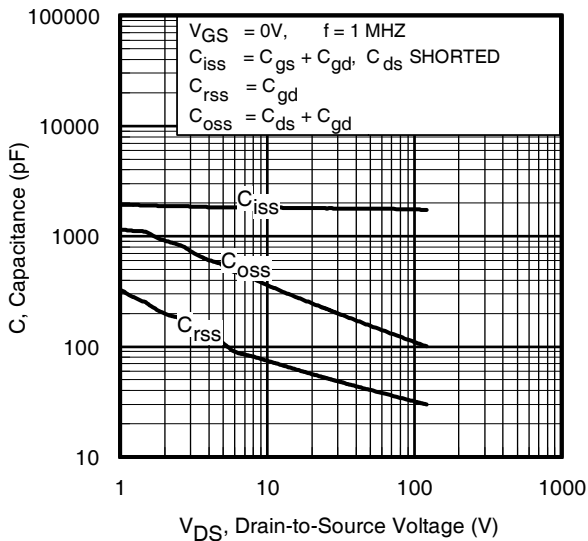
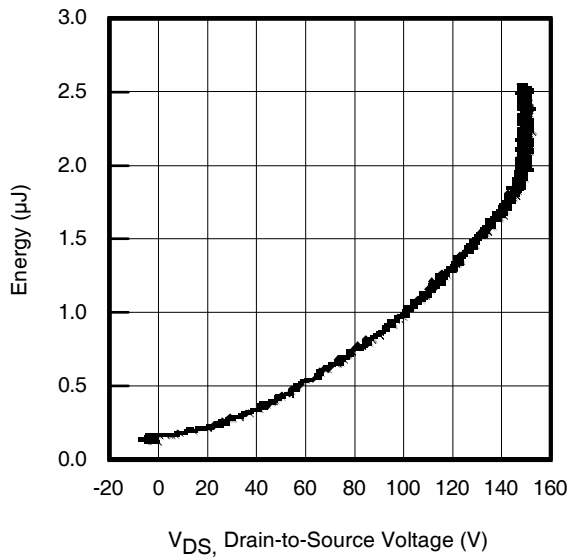

Fig 5. Typical Capacitance vs. Drain-to-Source Voltage
Fig 11. Typical C_{OSS} Stored Energy
| C _{iss} | Input Capacitance | — | 1750 | — | pF | V _{GS} = 0V V _{DS} = 50V f = 1.0MHz (See Fig.5) V _{GS} = 0V, V _{DS} = 0V to 120V ^⑥ (See Fig.11) V _{GS} = 0V, V _{DS} = 0V to 120V ^⑦ |